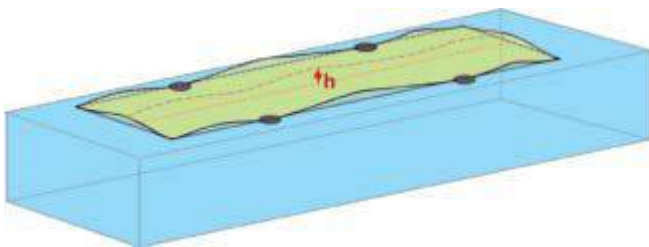

Fig.9. Complex curvature adopted by clamped, peened, Almen strip.
When peening of a flat Almen strip begins, the strip cannot bend regardless of the shot stream force. That is because the strip is being supported all along its length. Equation (6) then governs the relevant stress system. After further peening, the strip begins to adopt a convex curvature (see fig.9). Curvature occurs even though the strip is being restrained by four screws/bolts. The strip also develops surface compressive residual stress. During peening, this curvature will be opposed by the bending force being applied by the shot stream, inducing compressive bending stress in the surface being peened. For relatively low levels of coverage, the convex curvature will be completely overcome by the force of the shot stream. Equation (8) now defines the relevant stress system. Further peening may generate a curvature greater than that which can be overcome by the flattening-effect of the shot stream.